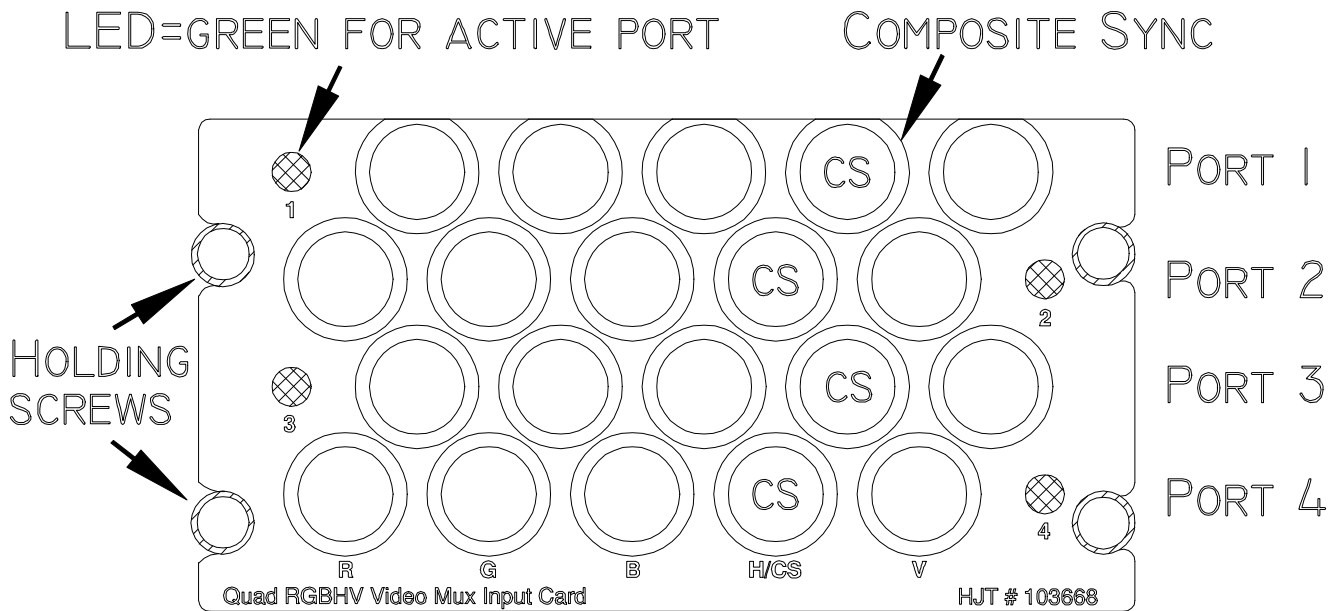

Figure 5-20. Quad RGBHV Multi-Port VIC.
- For **Quad RGBHV Video Mux (multi-port) VICs**, connect the RGBHV cables to the input connectors on the port(s) to be used (*Figure 5-20*). Due to their physical dimensions, these multi-port VICs can only be installed into Slot 2 or 3. If installed in Slot 2, another VIC can be installed in Slot 3 only. If installed in Slot 3, another VIC can be installed in Slot 1 only.